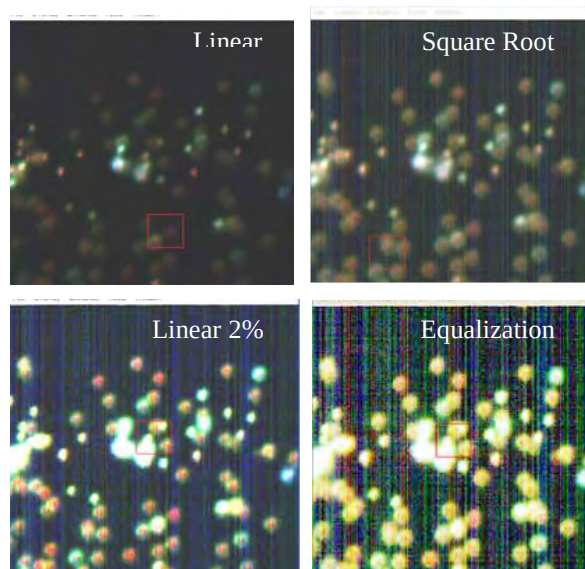

Figure 17. Examples of image with faint and bright features using different stretch options.
3. Use the stretch options to obtain the best contrast of objects against the image background. Stretching can also reduce the appearance of vertical stripes that are caused by noise in the HSI images. Going clockwise (see Figure 17), these four stretches show the gold nanoparticles at increasing contrast against background. The strength of the stripes also increases. The "Square Root" stretching makes both faint and bright objects more visible. **Stretching the display does not affect the image data.** "Linear 2%" and "Equalization" stretching show the faintest objects.